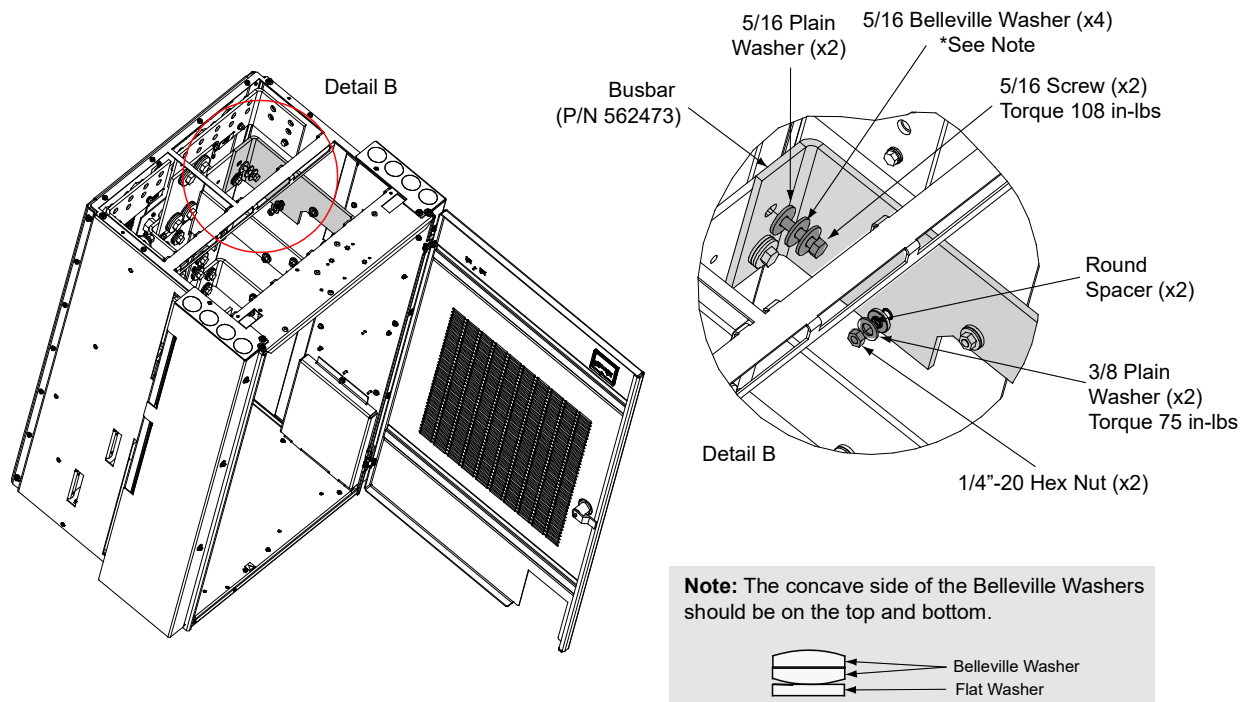

**Figure 1.3** Mounting the new busbar (P/N 562469) to the return side, re-use original hardware.
- [ ] 4. Mount the new busbar (562469) to the return side as shown in **Figure 1.3**.